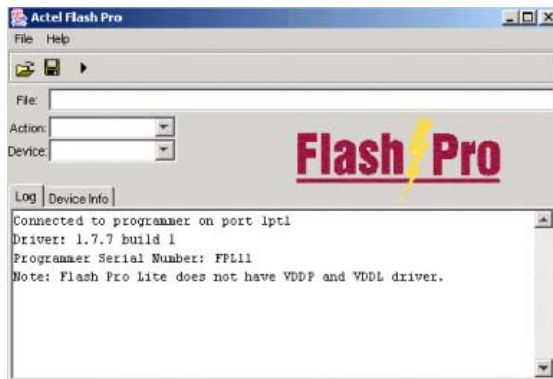

Figure 2-31. FlashPro Lite Successful Connection
5. Click **Connect**. A successful connect, or any errors, appear in the Log window, as shown in Figure 2-31.